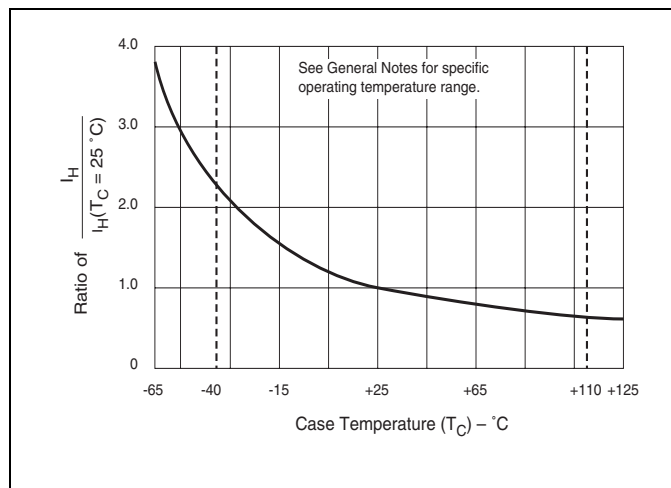

Figure E5.13 Normalized DC Holding Current versus Case Temperature
- See Figure E5.13 for I_H versus T_C or T_L.